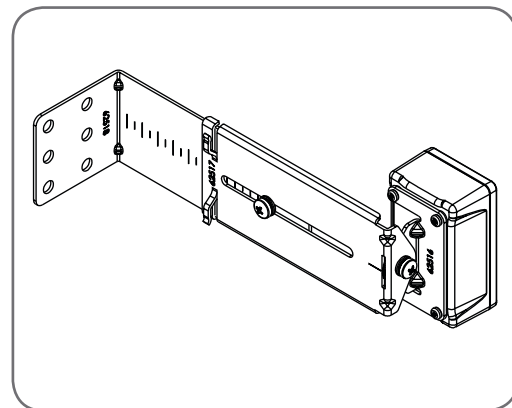

Fig 8.2
- Attach the bracket ② to the Safety Beam transmitter with four taptite screws (m3x5) ⑤ and attach the other side to the adjustment bracket ③ with the pan head screw ⑥. (Fig. 8.2)